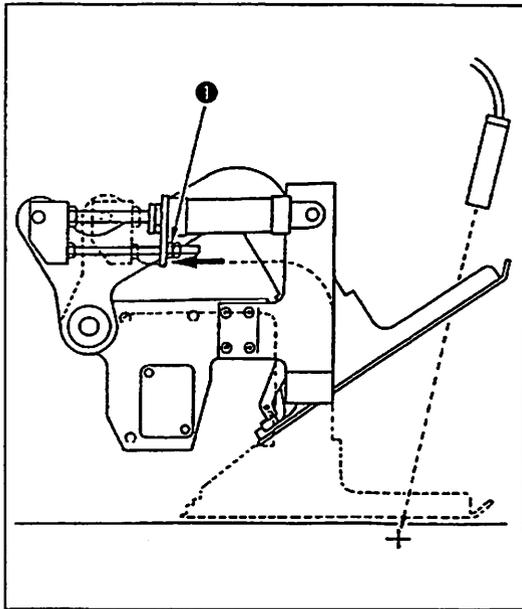

Fig. 38
To use this function, operate the sewing machine with stopper nut ① fixed at the deepest end of stopper as illustrated in Fig. 38.